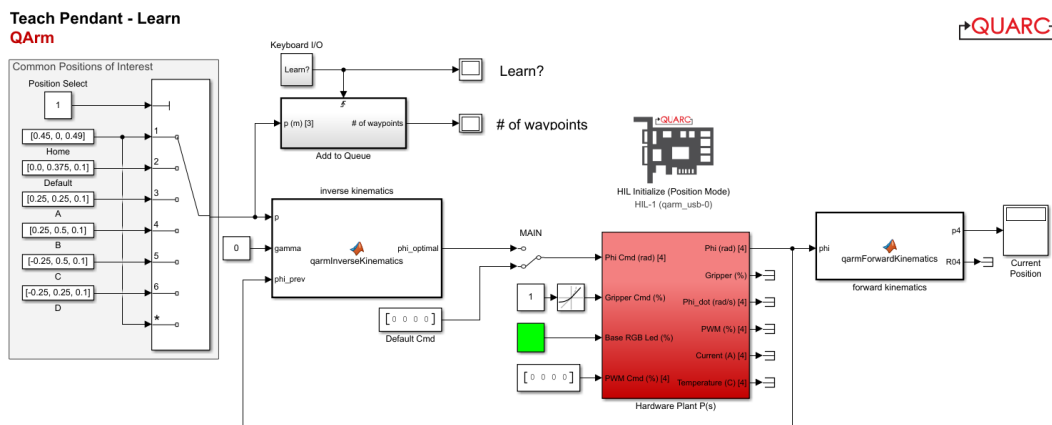

Figure 2: Simulink model *TeachPendant\_Learn.slx*
- Open the Simulink model TeachPendant\\_Learn.slx (Figure 2). You will use this model to "teach" the Quanser QArm a series of waypoints that simulate a robotic assembly process. This model emulates the learning mode of a real teach pendant.